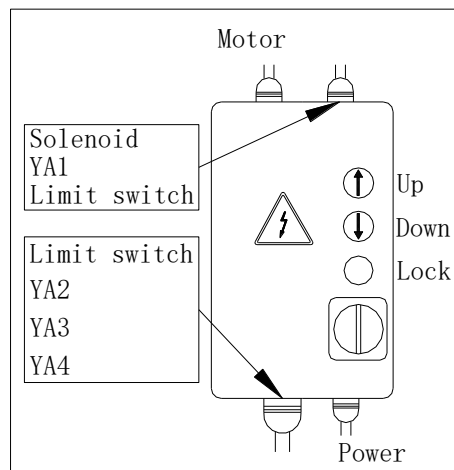

Fig.40
- 2) Connect the power and control system to the terminal strip on the control box (Fig.40) , inserting the cable into the rack passing through the prepared hole and following the wiring diagram on pages 13.
- 4) Close the cover of the electric box, turn the main switch to position 1, press the up push button (Fig.40) ,The motor rotation wise should be the one shown by the arrow on the pump.
The lift Commands (control devices) is shown as Fig.40.